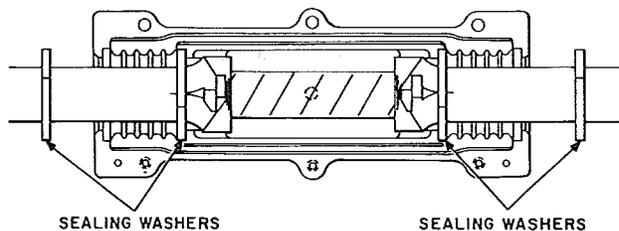

Fig. 14—Placing Sealing Washers
4.04 Select four sealing washers using Table A as a guide and place them over the cable and position the inner washers so they fit properly in the splice case groove. Mark the cable sheath (Fig. 14).